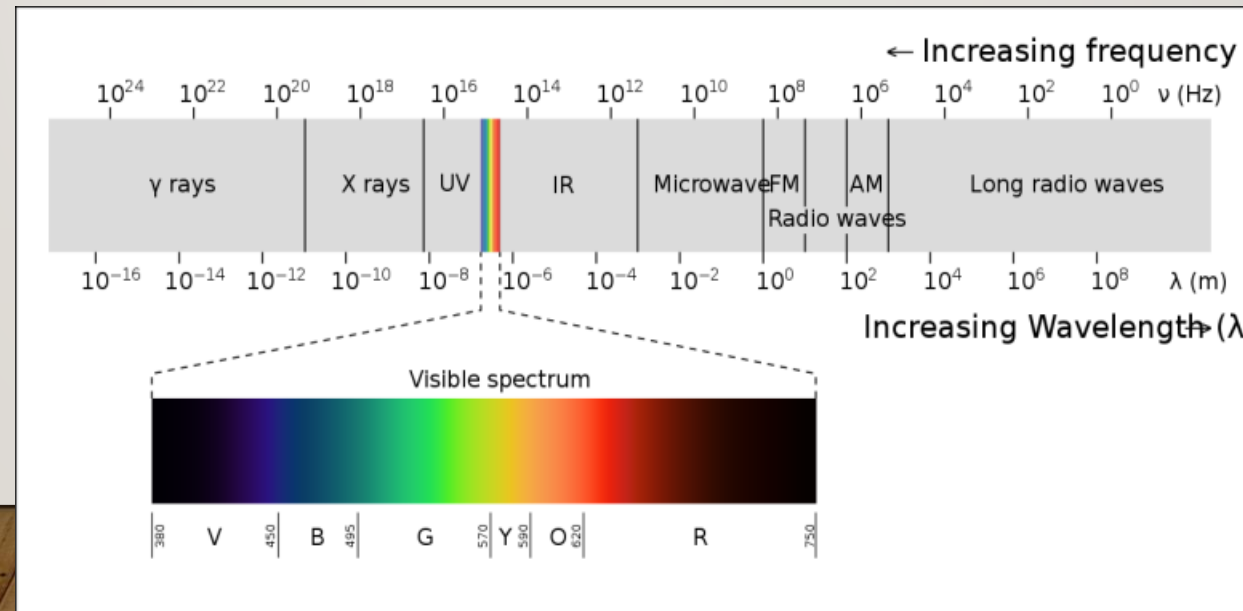

**FIGURE 5.2** Electromagnetic spectrum.
- The human visual system (HVS) is sensitive to photons of wavelengths *between 400 and 700 nm*. As shown in Figure 5.2, this is a fairly narrow slice within the EM spectrum, which ranges from *radio waves (wavelengths of 1m or longer)* at one end to *gamma rays (wavelengths of 0.01 nm or shorter)* at the other end.